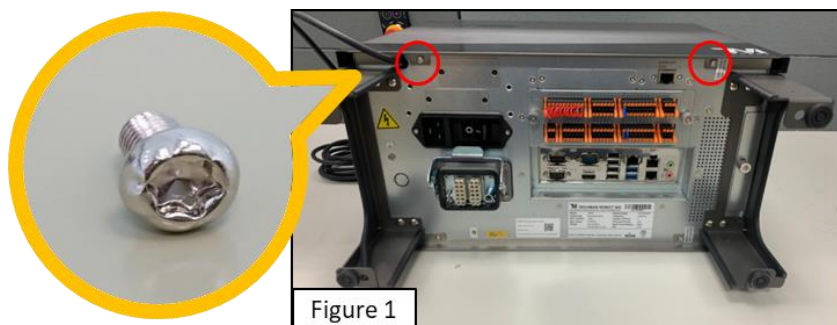

Figure 1
- Put the Control Box in a clean working space (laying a blanket in the spread is recommended to avoid scratching the control box) and loosen the two Torx screws (as shown in Figure 1).
- Put the Control Box in a clean working space and loosen the two Torx screws (as shown in Figure 1).
- Refer to Disassemble the Front cover and disassemble the Back cover for relevant operating instructions (as shown in Figure 1).
- Refer to Disassemble the Front cover and disassemble the Back cover for relevant operating instructions (as shown Figure 1).
- Refer to the previous operating steps to disassemble the Front cover, the Back cover, the Left cover, and the Right cover of the control box (as shown in Figure 1).